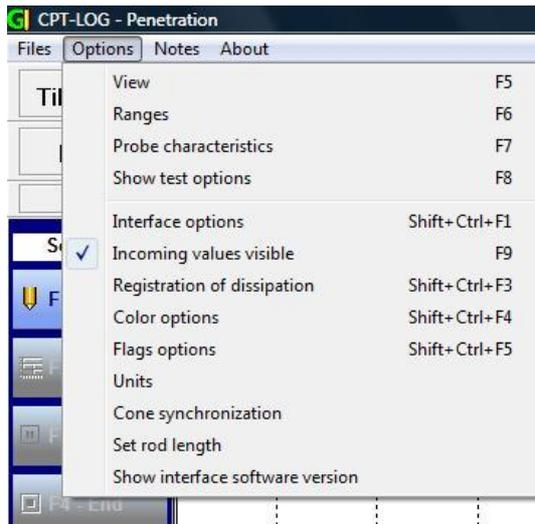
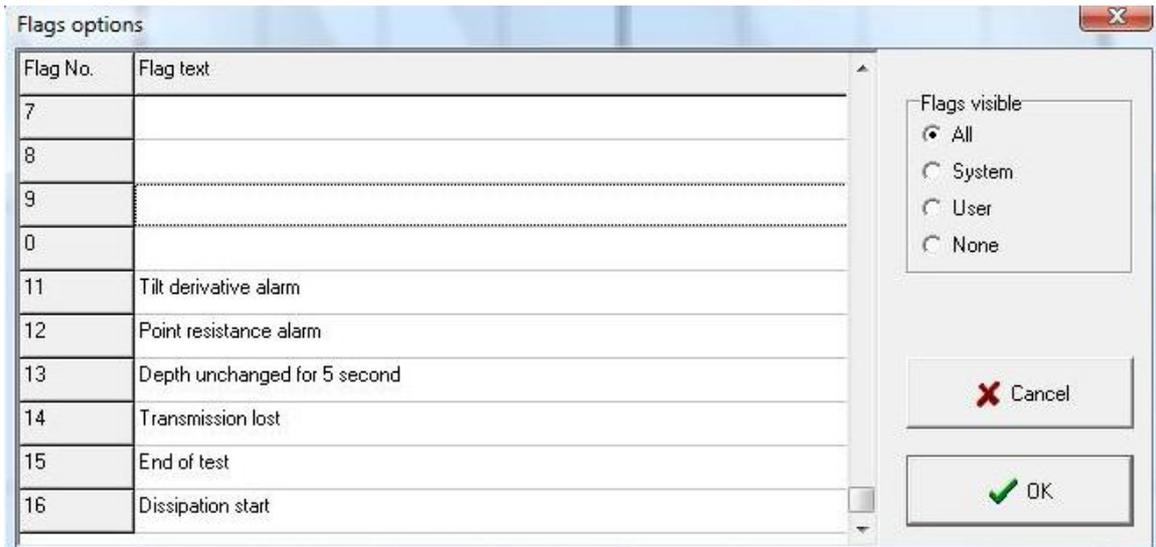

Fig. 3-2: Options Menu
Fig. 3-8: Flags, Press Shift+Ctrl+F5
The Bar Menu (Fig. 3-2) consists of [Files], [Options], [Notes] and [About]. Under [Files], the user can exit (Ctrl+X), under [Options], all settings for Penetration are set, [Notes] is presently inactivated as the new Flag function is introduced with this CPT-LOG version (Fig. 3-8). Under [About], the user can access the present manual as a pdf file. The file can be updated with more recent files from Geotech but it is paramount that it is saved in the same directory C:\Program\Geotech\Cpt-log\Manual
- Another feature in CPT-LOG are **Flags Options** (Fig. 3-8) informing the CPT data interpreter of any artefacts, such as tilt alarm (may have generated lateral loads and erroneous point resistance values), point resistance alarm, transmission loss, unchanged depth causing spikes in the data (dissipation of the pore pressure or low point resistance and friction values) because of rod extension or breaks in the sounding. The user can define his own flags and whether to display these during the sounding.
5.2 When using a Nova cone with memory, the software goes directly to a Zero test (Fig. 3.14). If warning shows that a synchronization was made along time ago, connect cone to the computer with USB cable and go to Penetration → Options → Cone synchronization (Fig. 3.2)